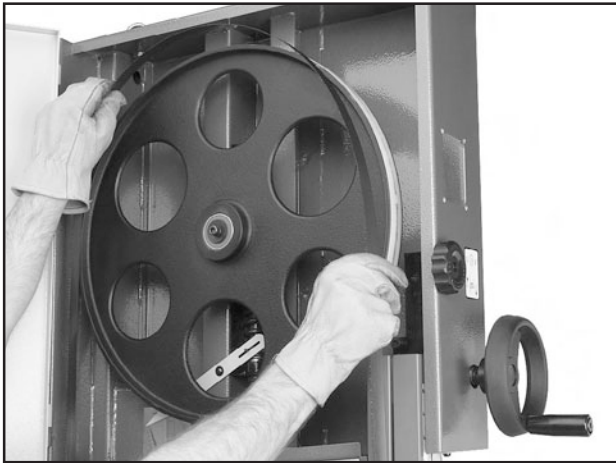

Figure 71. Placing blade on the wheels.
2. Slip the blade through the guides, and mount it on the upper and lower wheels (**Figure 71**).